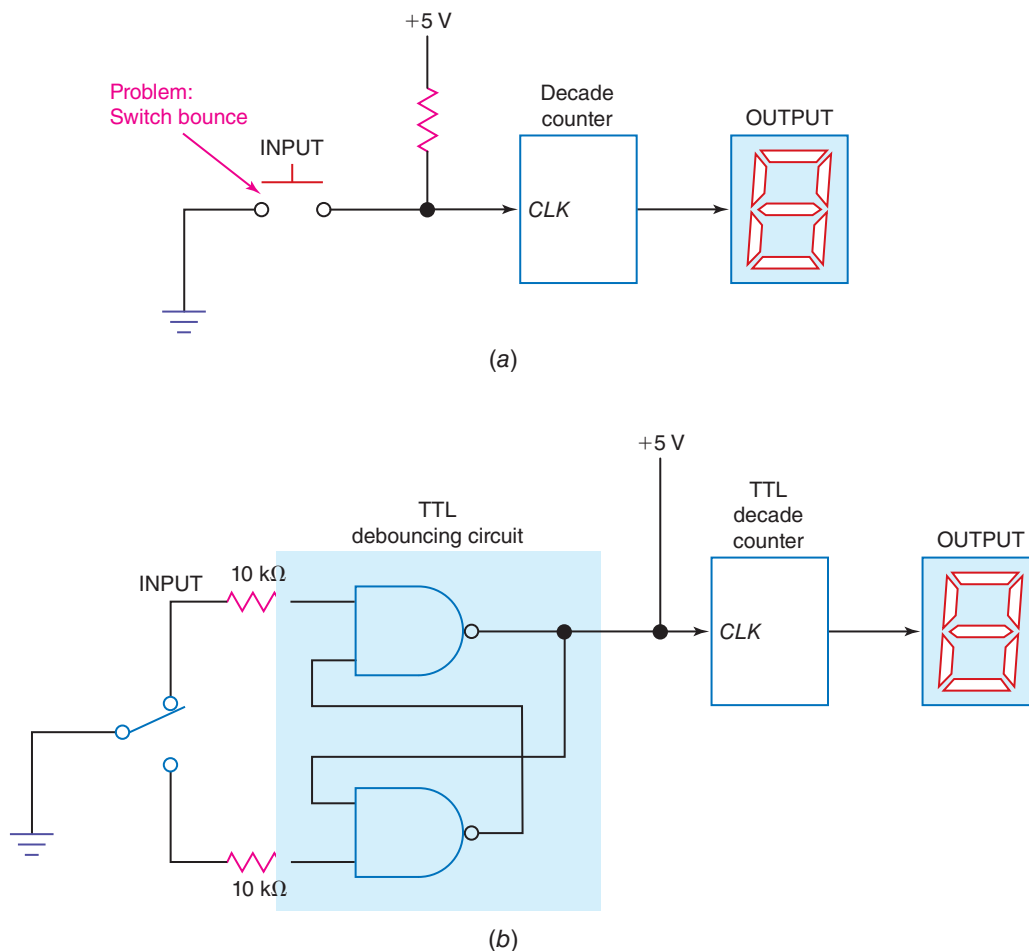

Fig. 5-13 (a) Block diagram of switch interfaced to a decimal counter system. (b) Adding a debouncing circuit to make the decimal counter work properly.
The switch interface circuits in Figs. 5-11 and 5-12 work well for some applications. However, none of the switches in Figs. 5-11 and 5-12 were *debounced*. The lack of a debouncing circuit can be demonstrated by operating the counter shown in Fig. 5-13(a). Each press of the input switch should cause the decade (0–9) counter to increase by 1. However, in practice each press of the switch increases the count by 1, 2, 3, or sometimes more. This means that several pulses are being fed into the clock (CLK) input
A *switch debouncing circuit* has been added to the counting circuit in Fig. 5-13(b). The decade counter will now count each HIGH-LOW cycle of the input switch. The cross-coupled
31. Refer to Fig. 5-13(b). The cross-coupled NAND gates that function as a debouncing circuit are sometimes called a(n) _____ or latch.
34. Refer to Fig. 5-13(a). This decade counter circuit lacks what circuit?